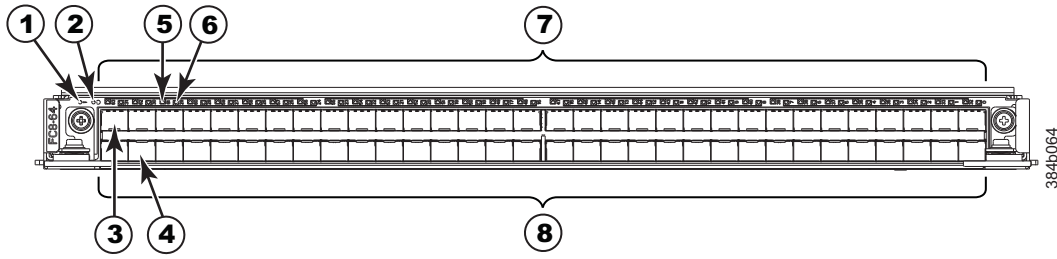

Figure 47. FC8-64 port blade
- Figure 47 on page 134 shows an FC8-64 port blade